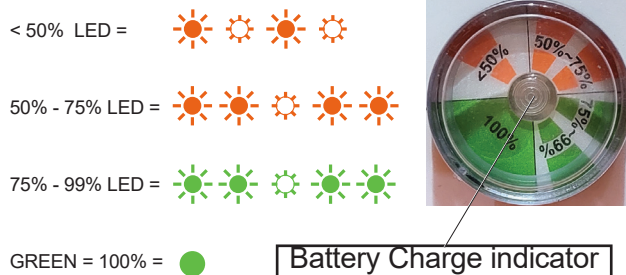

Figure 5 – Battery Charge Indicator
6. Visually inspect the battery charge indicator for proper charging rate. The LED's are visible on the battery tray. Refer to Figure 5.